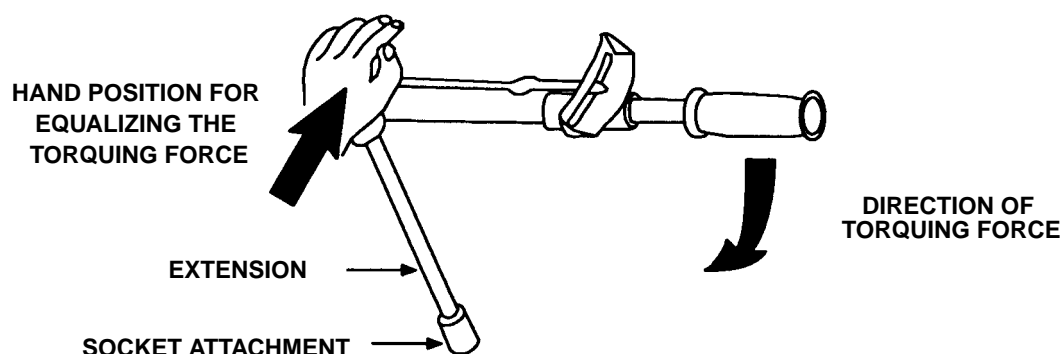

Figure 6 - Handling of Torque Wrenches Using an Extension
- 5.3.3 When using a socket type extension, keep the extension in line with the fastener being torqued and place the palm of the left hand on the head of the torque wrench to equalize the force being applied to the handle (see Figure 6).